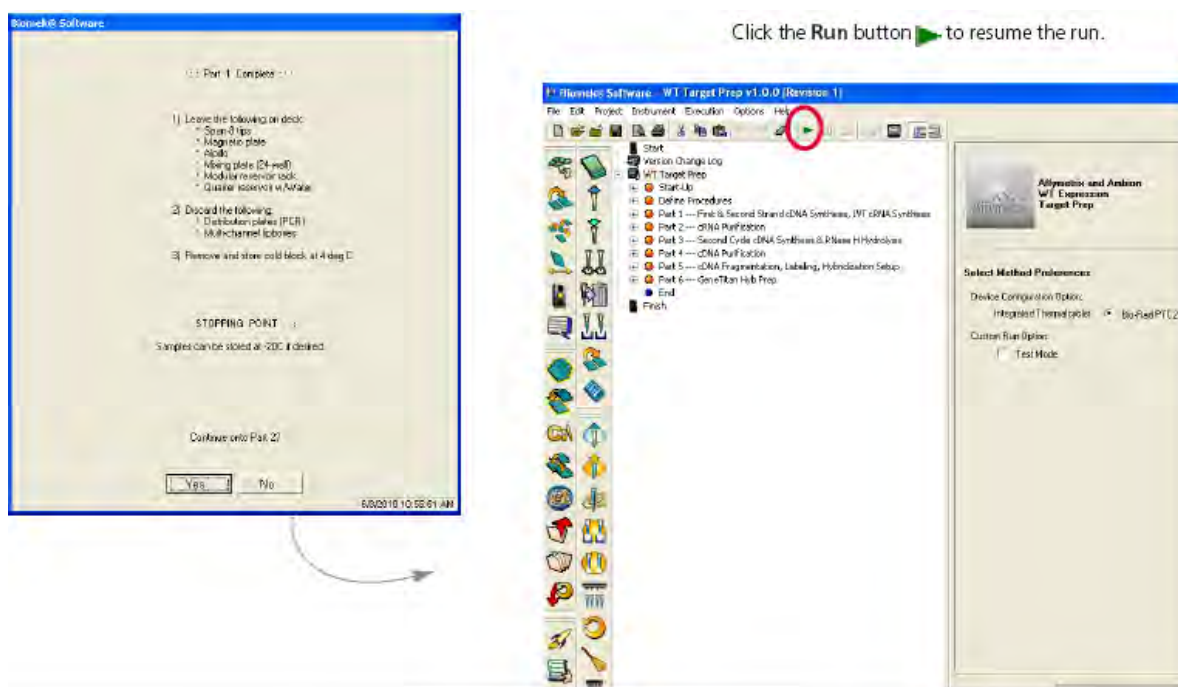

Figure 22 Message at completion of part 1.
8. If you do not want to continue with Part 2, click **No**. When ready to resume, ensure that clean, fresh Span-8 tip boxes are placed on the deck, then click **Run** ► in the window that appears (Figure 22).